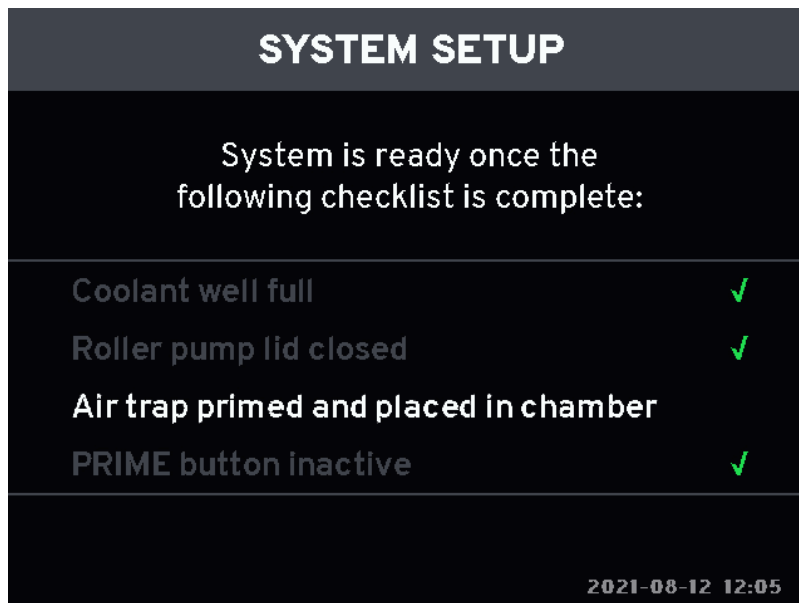

Figure 4.29. System setup checklist screen, Air trap primed and placed in chamber required
15. Install the Start-Up Kit now. If the console finishes its self test before you complete installing the Start-Up Kit, the System setup checklist screen (Figure 4.29) appears. An unchecked item requires your attention. See Table 4.1, "Setup Sensor Checks," on page 32.